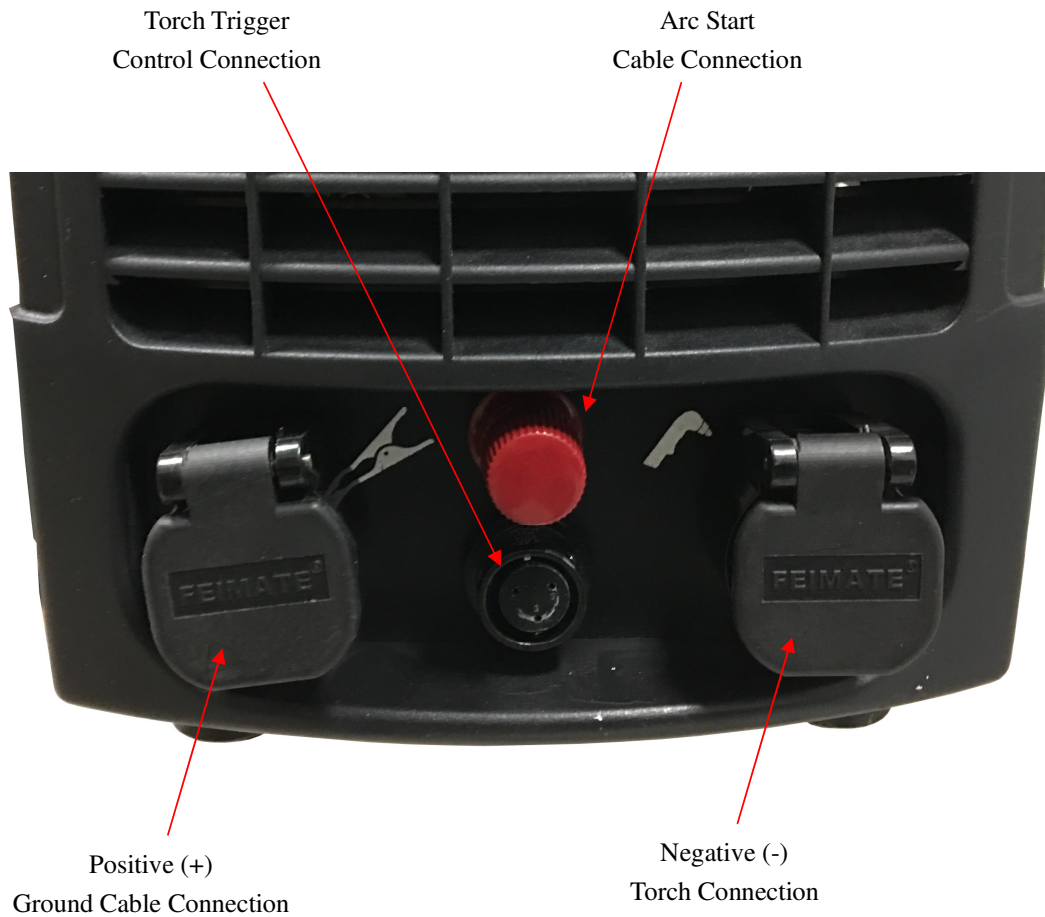

Figure 3.
- b. Connect the Torch Control Cable (Black) 3 prong connector to the Torch Trigger Control Connection. See Figure 3.
- c. Connect the Torch Weld Cable (Yellow Nut) to the Negative (-) output connection. See Figure 3.
- d. Connect the Grounding Cable to the Positive (+) output connection. See Figure 3.